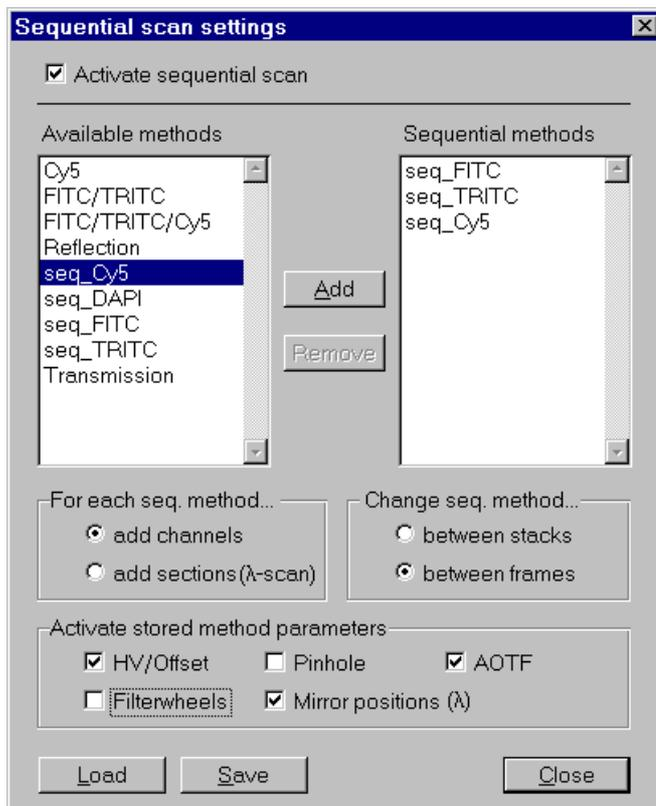

Figure 3: Dialogue for Sequential Scan
4. Mark **<Activate sequential scan>** on the upper left corner of this dialogue box (Fig. 3).